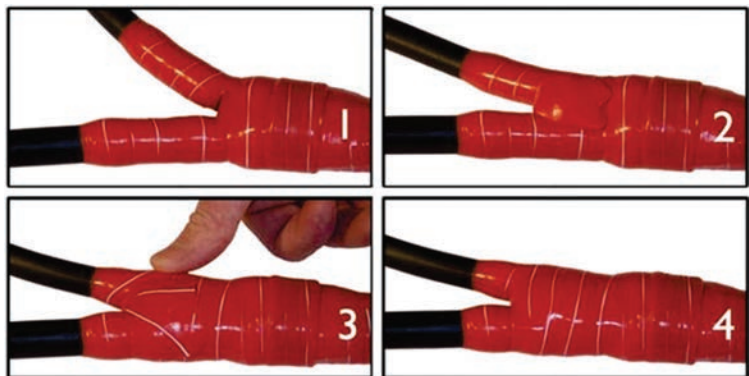

Fig. 9.80 Restoring the outer sheath on a branch joint
- Put the two cables together and bind the main and branch cables tightly over the filling. Finally, wrap the crotch while pulling the branch away from the main cable as shown in Fig. 9.80.